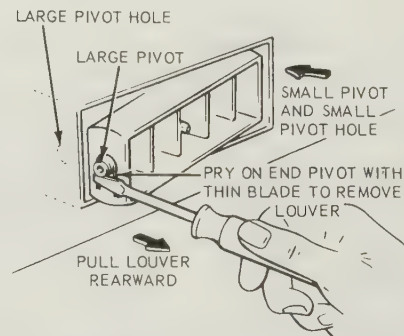

Fig. 12.38. Removing the ventilation louver assembly (Sec. 50)
- 1 Refer to Fig. 12.38 and using a screwdriver carefully pry in the end of the louver assembly which has the larger pivot.